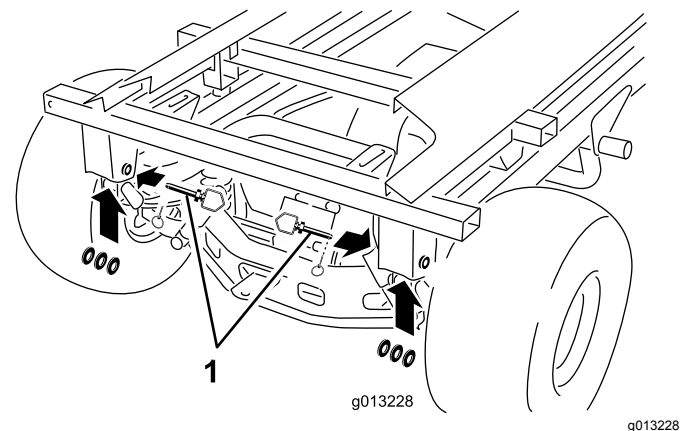

Figure 50
10. Remove the rear lynch pins, hitch pins, and washers (Figure 50).